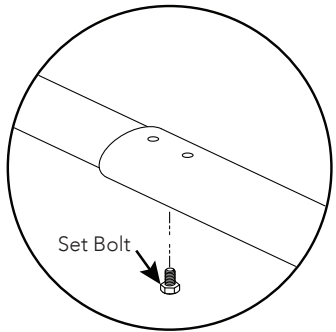

Figure 11. Set Temporary Arm Length
4. Loosen the set bolt on each arm and set the arms to length. Tighten the set bolts (Figure 11).
19. Remove the set bolts (Figure 11).